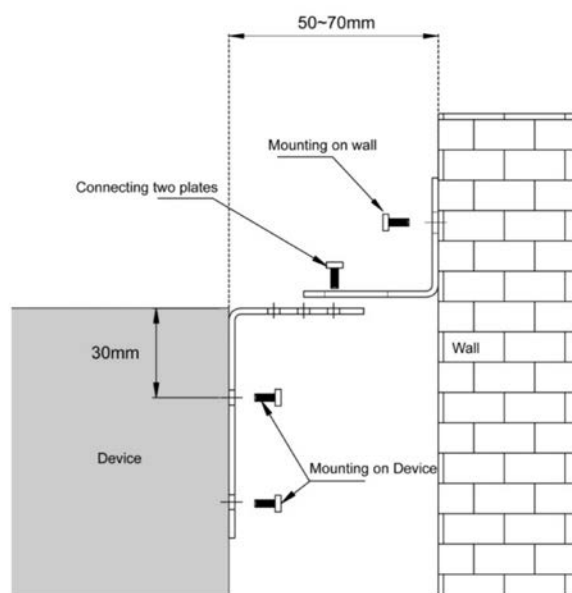

Figure 1. Side view
1. Pull the drawer (1) outward to the max. position, and remove the screws (3) on the drawer (1) and the sliding rail (2) on both sides with a Phillips screwdriver. (See Figure 1)
b. Place the metal fixing plates according to Figure 1, and fix one to the device with M5\*16 flat head screws (screw holes are pre-drilled), the other one to the wall with M6\*60 anchor. (ST4\*30 flat head self-tapping screws can be used on wooden wall, for other type of walls please use M6\*60 anchor. Please check with someone professional for the application of screws if necessary.)